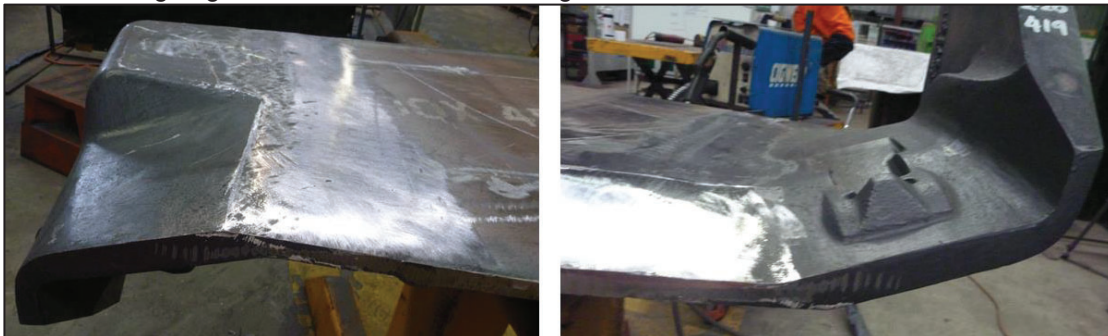

Figure 17 Weld clean up
2.11.2. Clean welds by following procedure PWP0001. Ensure no excess weld is present at top, bottom and at leading edge of the cast corner. Refer Figure 17.